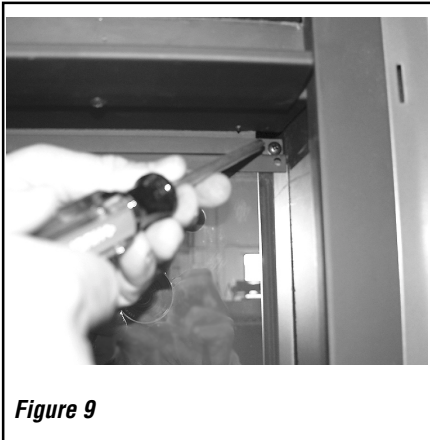

Figure 9
3. Remove two screws on the top corners of the glass that hold glass in place (see **Figure 9**).